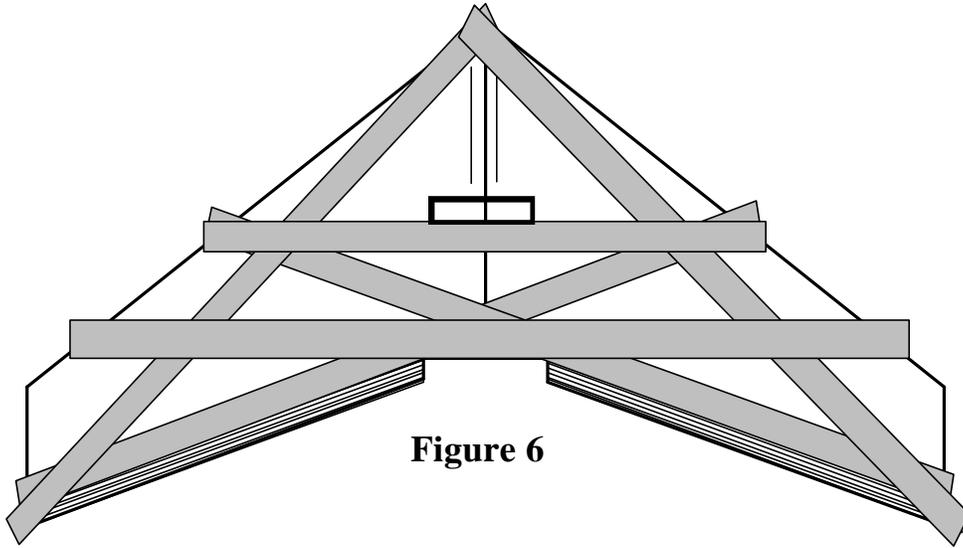

Figure 6
Taping Wings for Strength Lay the wing top-side up in the bottom beds. Wrap a strip of 2 inch fiber filament tape around the trailing edge (TE) between the wing tip and the prop cutout. Apply a strip of 2 inch fiber filament tape to the trailing edge to extend to the opposite leading edge. Apply two spanwise strips of tape at the motor tray cutout extending to the leading edge on both sides. Apply another two spanwise strips of 2 inch fiber tape in the center of the wing 4 inch from the motor tray cutout. Apply two strips of fiber tape diagonally from the nose to the outboard tip of the (TE). Lay the wing bottom-side up in the top beds and repeat the same taping procedure on the bottom side. Spray the fiber tape with # 77 adhesive and let it dry to the touch. (See Figure 6)